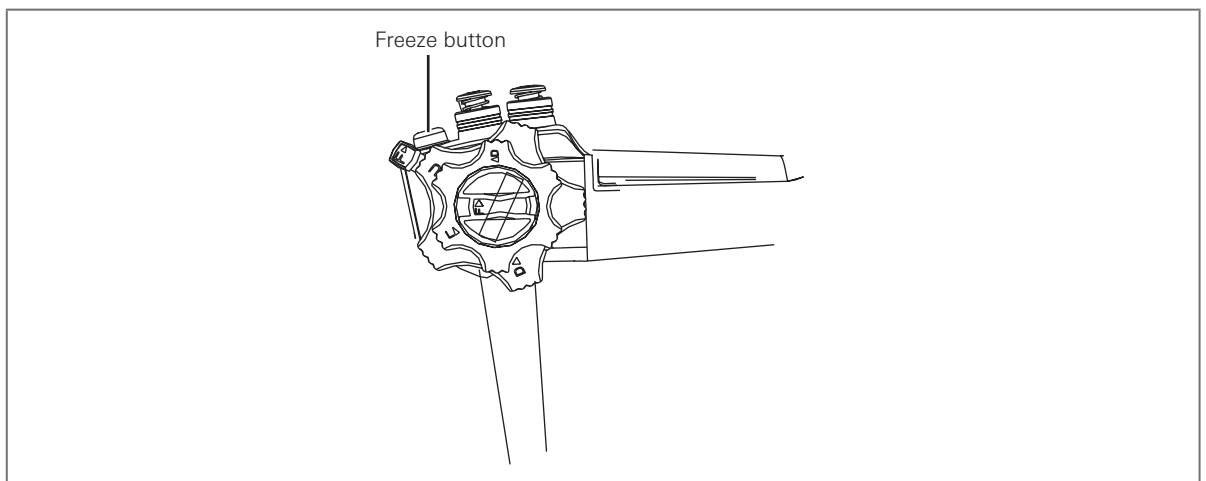

Figure 4.3
1. Press the freeze button on the handle of the endoscope (see Figure 4.3) or press the freeze button on the front panel of the video processor to freeze the image.